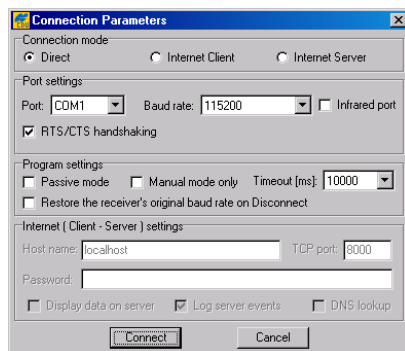

Figure 1-4. Connection Parameters
Once PC-CDU is launched, the *Connection Parameters* dialog box displays (Figure 1-4).
4. Click **Connect**. See Figure 1-4 on page 1-6 for an example of the *Connection Parameters* dialog box for this connection type.